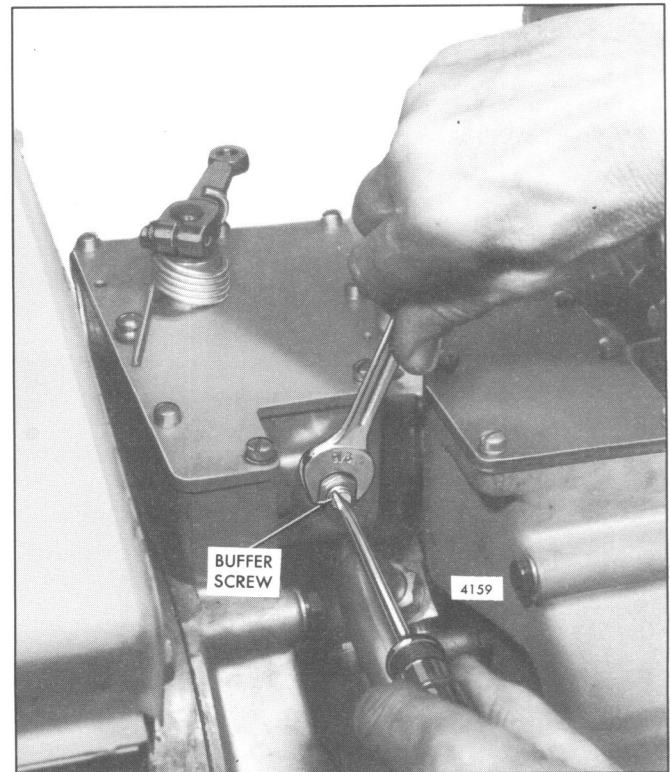

Fig. 8 – Adjusting Buffer Screw
1. With the engine running at normal operating temperature, turn the buffer screw IN so it contacts the differential lever as lightly as possible and still eliminates engine roll (Fig. 8). Do not raise the idle speed more than 15 RPM with the buffer screw.